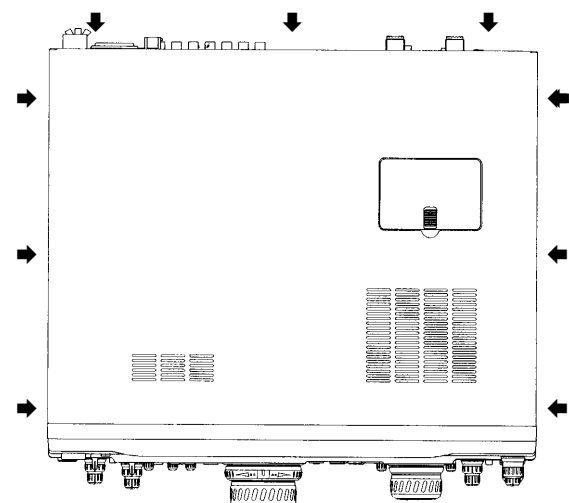
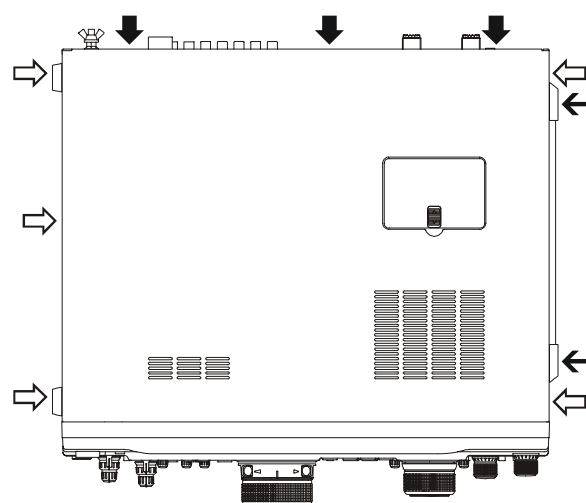

Figure 1 (FT-1000MP original version)
Figure 2 (MARK-V FT-1000MP Field)
- ❑ Referring to Figure 1 for the **FT-1000MP** (original version) or Figure 2 for the **MARK-V FT-1000MP Field**, remove the top cover from the transceiver.